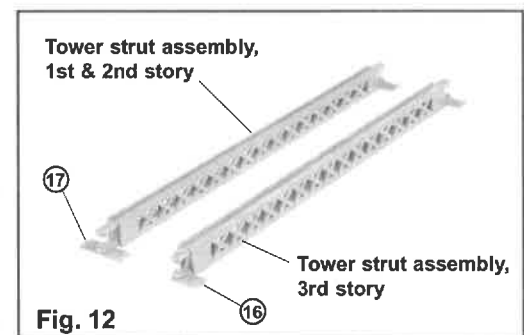

Fig. 12
There are a total of eight 1st & 2nd story and four 3rd story tower struts. The 3rd story struts use part (16) while the 1st & 2nd story struts use part (17). See fig. 12.